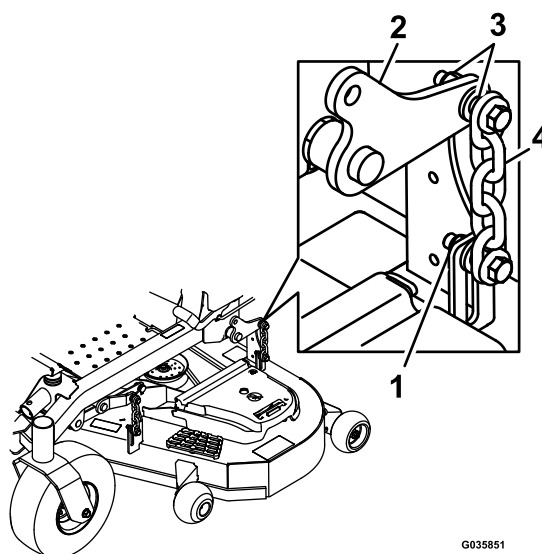

Figure 80
13. Loosen the locknuts (Figure 80) on all 4 corners and ensure that the mower deck is sitting securely on all 4 blocks.